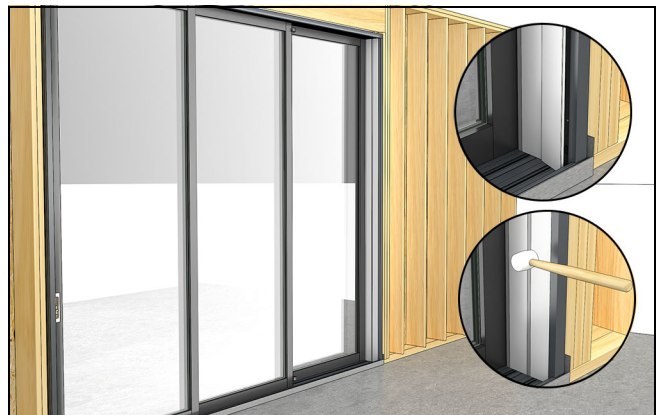

Figure 185
2. Install the interior stationary jamb covers. The covers have a leg that fits into a kerf on the jamb weather strip. Fit the leg on the cover into the jamb kerf and rotate the cover into place. You may need to seat the cover with a rubber mallet. See Figure 185.